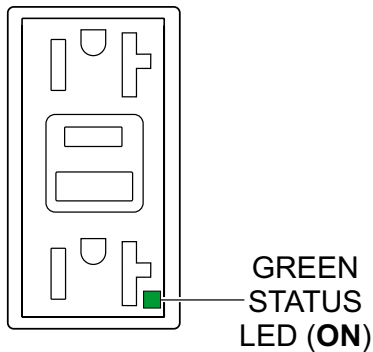

Figure 75. GFCI Receptacle (ON)
3. Verify that the status LED on the GFCI receptacle (Figure 75) is **ON (GREEN)**.